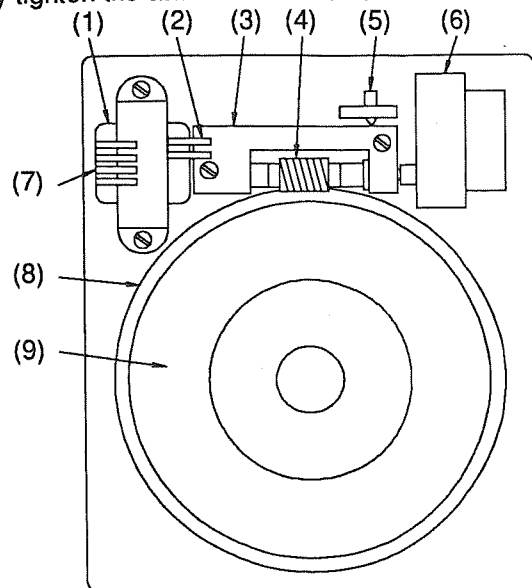

Fig. 10
7. Replace the worm block and motor system. Tighten the two shoulder bolts firmly, but do not overtighten. The worm block should pivot freely on the one shoulder bolt. Connect the two wires from the motor to the two-wire connector from the transformer (#2, Fig. 10). It does not matter which way the wires connect together.
8. The Spring plunger (#5, Fig. 10) is used to spring load the worm block. Move the worm block so that it engages the worm gear. Slowly tighten the Spring plunger so that it just touches the worm block. Continue tightening 1/4 turn more. This setting will provide the proper pressure to prevent any gear backlash, and still allow for variations in the worm gear.
11. Reach through the "window" in the Clock cover (where the Power panel was) and connect the three-wire connector from the transformer (#7, Fig. 10) onto the circuit board located inside the clock cover. This connector will only go one way.